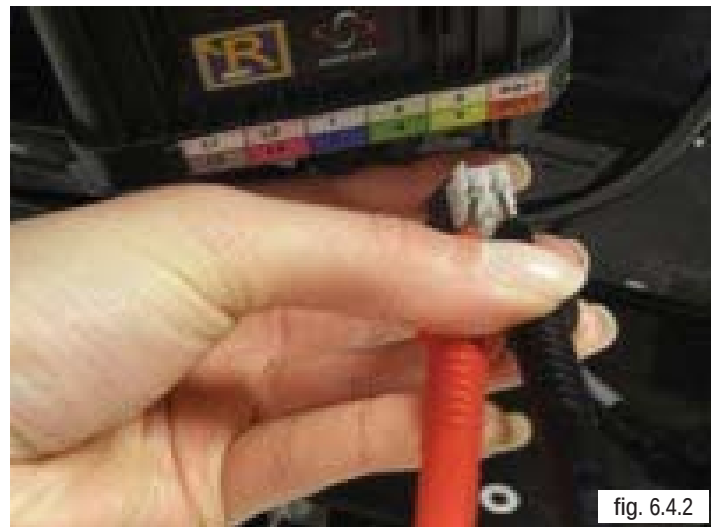
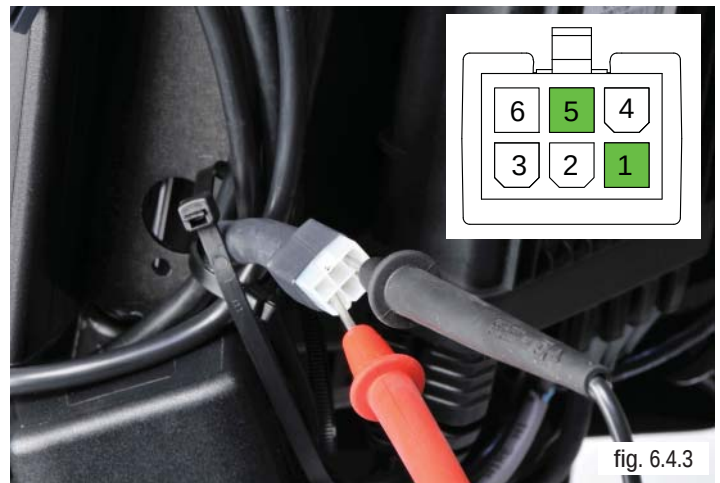

fig. 6.4.2
fig. 6.4.3
5. If your reading is open, re-test the resistance at the 6 pin connection leading directly from the recline actuator (fig 6.4.2) at pins 1 and 5. (Fig 6.4.3)